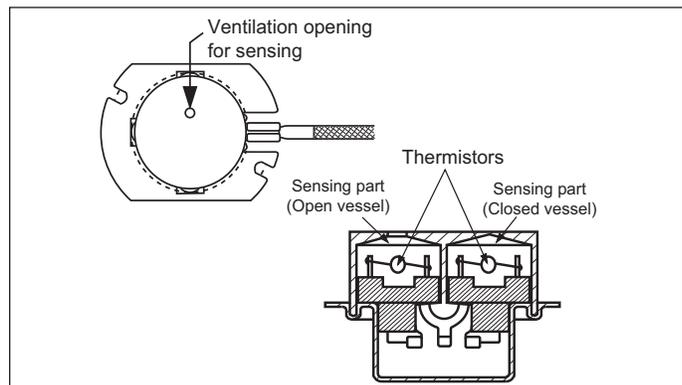

Figure 3-31. Humidity Sensor
A. Structure of Humidity Sensor (See Figure 3-31): The humidity sensor includes two thermistors. One thermistor is housed in the closed vessel filled with dry air while another in the open vessel. Each sensor is provided with the protective cover made of metal mesh to be protected from the external airflow.